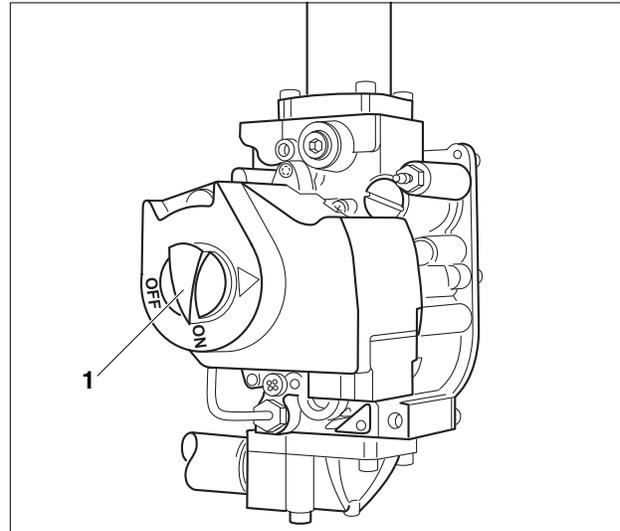

Fig. 3 Gas control valve
5. Turn the gas control manual knob (Fig. 3, **Item. 1**) clockwise to the "OFF" position. Do not use excessive force.